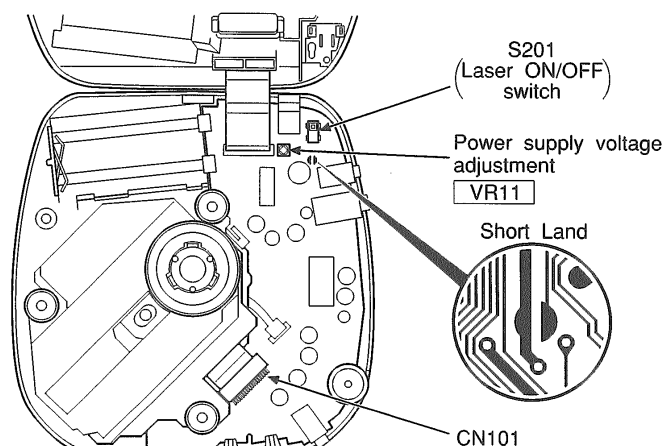

Fig. 1
Short-circuit the lands of the laser ON/OFF switch (S201) by soldering them. It turns “ON” position. (Refer to below Fig. 1 or printed circuit board and wiring connection diagram for short land location on page 27.)
2. Take care to connect CN101 and CN102, as shown in Fig. 1.
4. Adjust **VR11** on the P.C.B. at **3.10 ~ 3.14 V**, as shown in Fig. 1.
Fig. 1 is a block diagram showing the compression-shockproofing mechanism, the difference of which from the conventional mechanism is as follows: Input information read out at double speed undergoes data compression (16 bits → 4 bits) by the encoder in the ADPCM (Adaptive Difference PCM) and stored in the external memory; the stored memory information undergoes data elongation (4 bits → 16 bits) by the decoder in the ADPCM and supplied at normal speed to the D/A converter.